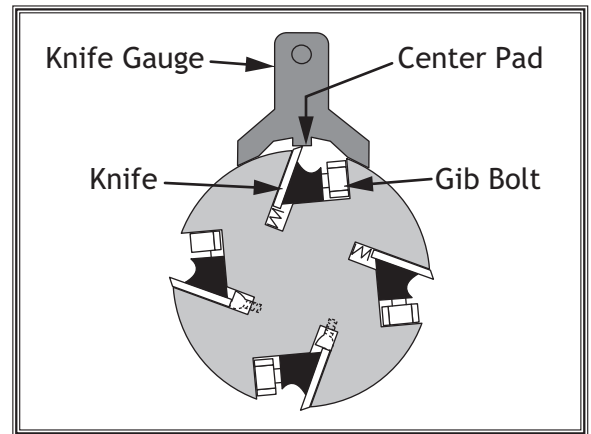

Figure 24. Knife-setting jig correctly positioned over knife.
6. Position knife-setting jig over knife so that knife edge is directly under center pad, as shown in **Figure 24** to right.